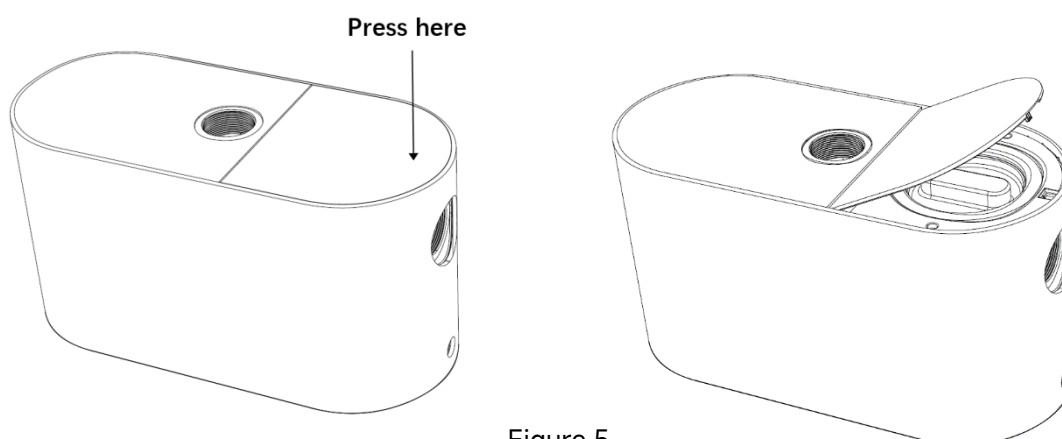

Figure 5
- 2). Press the cover plate to spring it up and open the cover plate. (see Figure 5)